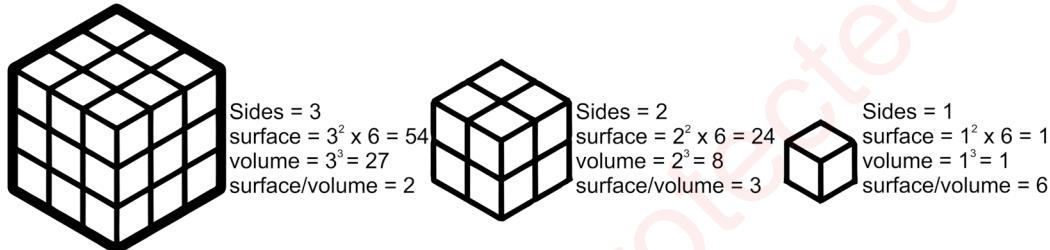

Fig 7.20 Variation of surface to volume ratio
- **Increased relative surface area.** As shown in following Fig that the surface to volume ratio increases when we take particle in smaller dimensions (Fig 7.20).